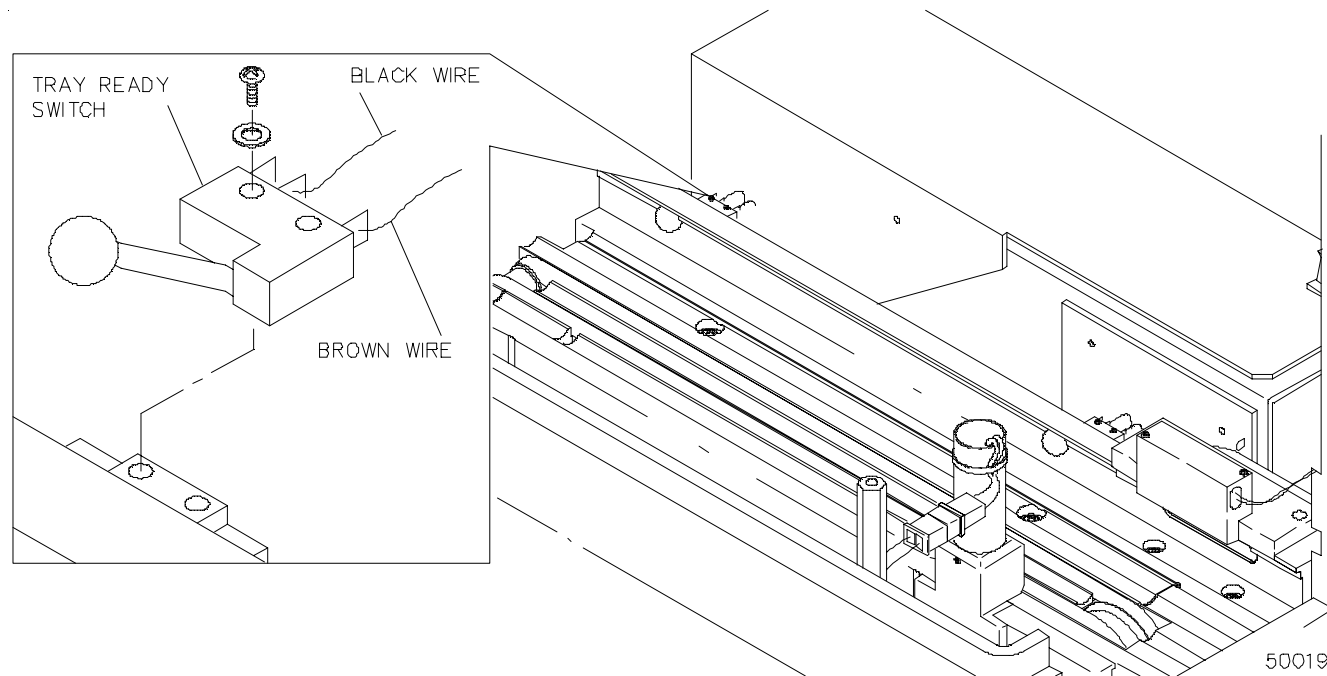

Figure 4-19. Tray Ready Switch Assy
3. Remove Tray Ready Switch mounting hardware from two places (**Figure 4-19**).